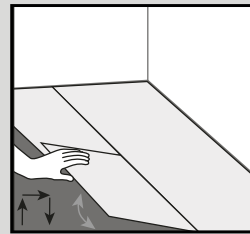
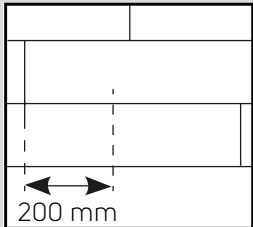
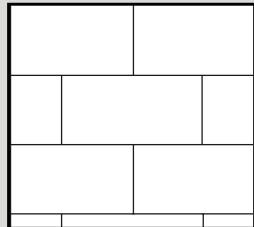

Fig. 3
Fig. 4a
Fig. 4b
- Start the second row by clicking the tongue into the groove holding the plank at an angle (approximately 30°), then tap the plank/tile firmly into the groove of the first row. Install the next plank/tile by easing the tongue and groove together on the long side (Fig. 3). Tiles and planks should be installed 'off-set' such that four corners never meet (Fig. 4a and Fig. 4b).